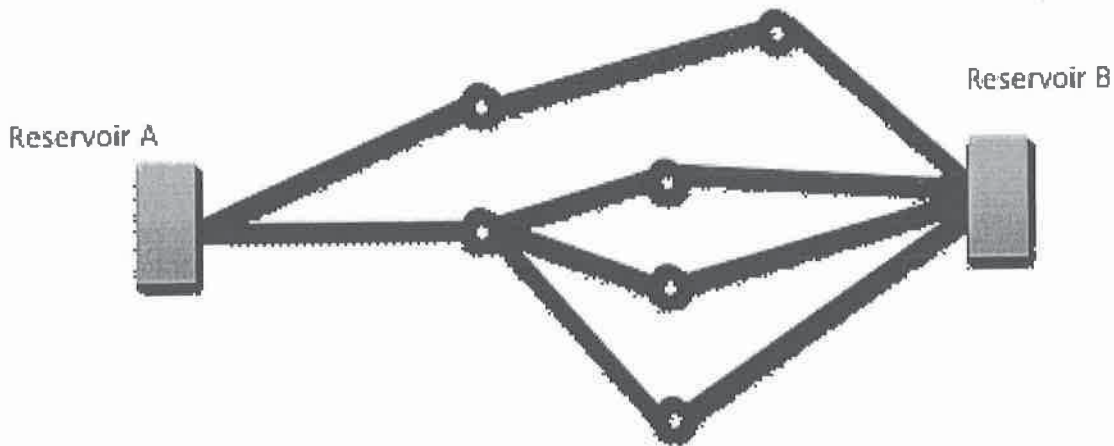

Figure 2. Ten-pipe system.
2. Ten identical pipes connect an upstream reservoir A (water elevation 80 m) to a downstream reservoir B (water elevation 65 m) (Figure 2). All the pipes are at 25 m elevation. Each pipe has a 350 mm diameter, is 350 m long and has a 'C' value of 130.